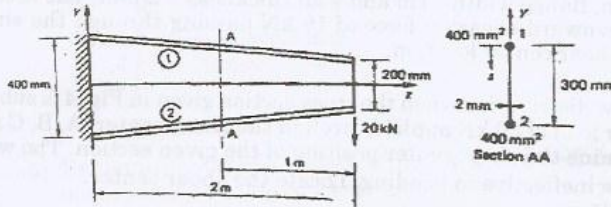

Figure 6
- b) A thin-webbed tapered beam subject to a 20 kN tip load is indicated in Figure 6. Obtain and plot the shear flow distribution in the web at a section located at 1 m from the free-end. The web ($t = 2$ mm) is *fully effective* in resisting bending. Obtain the flange axial loads for the upper and lower flanges.